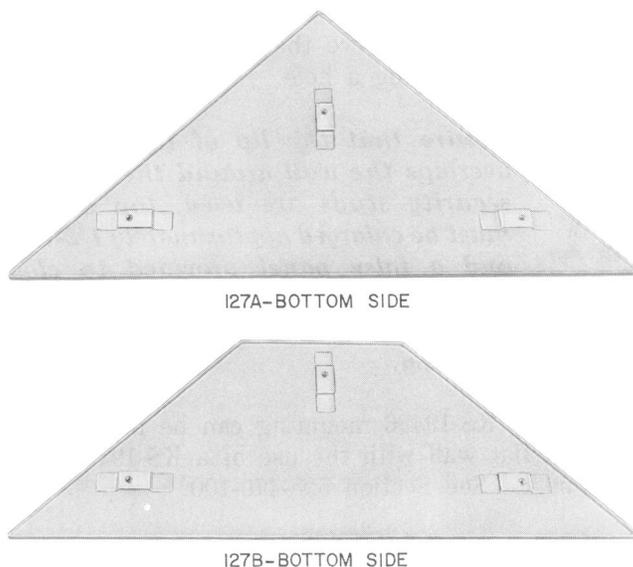

Fig. 3—127A and 127B Covers
2.11 Install a 127B cover (Fig. 3) over the coin telephone using three No. 8-32 by 3/16 RHM screws. The cover must be ordered separately; screws are furnished with cover.
2.13 Install a 127A cover (Fig. 3) over the coin telephone using three No. 8-32 by 3/16